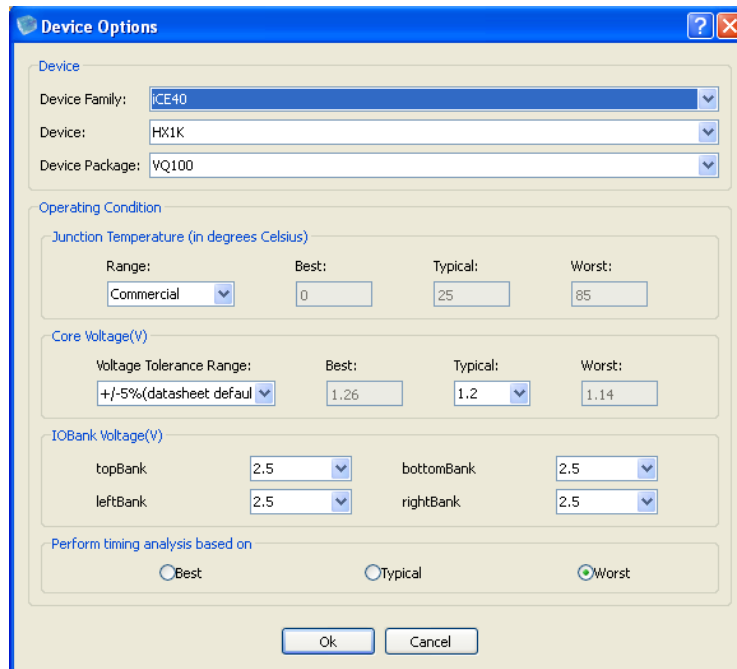

Figure 3-11: Device Options for iCE40 Family
The Device Options dialog box is shown in Figure 3-11.
3. **IO Bank Voltage**: This option is available only for the iCE40 family as shown in Figure 3-11. Choose a bank voltage from the provided options for the top, bottom, left, right banks. The specified IO Voltage values are used by Power Estimator and Static Timing Analysis tools.